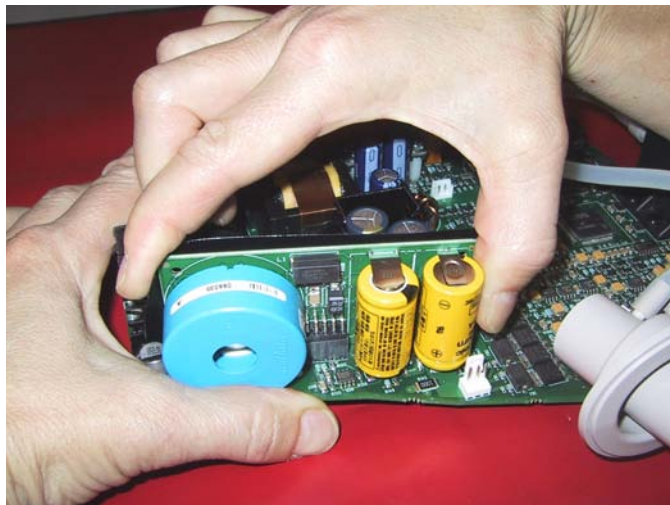

Figure 5-9. Removing the Alarm PCBA
- 7 Locate the Alarm PCBA, ITEM 20, and the alarm shield, ITEM 34 (Figure 5-9). Gently pull up on the Alarm PCBA and alarm shield together to remove them from the Main PCBA. Keep the alarm shield for later re-installation or replace if damaged.